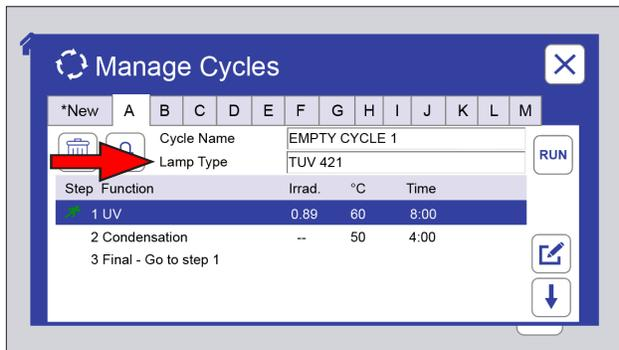
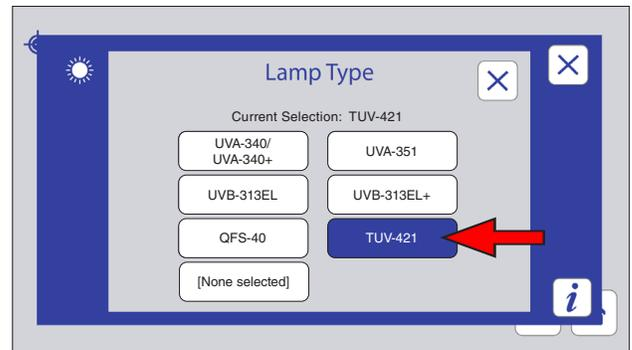

Figure 11.7.1c: If X69 = Yes the Manage Cycles screen will show the Lamp Type. Touch the text box to display the lamp type selection screen.
Figure 11.7.1d: Touch the lamp type button to select the installed lamps.
- If Machine Configuration parameter *X69 Lamps Specified in Cycle Management* is set to “Yes”, the Lamp Type is displayed and can also be selected on the Manage Cycles screen (Figure 11.7.1c and Figure 11.7.1d).